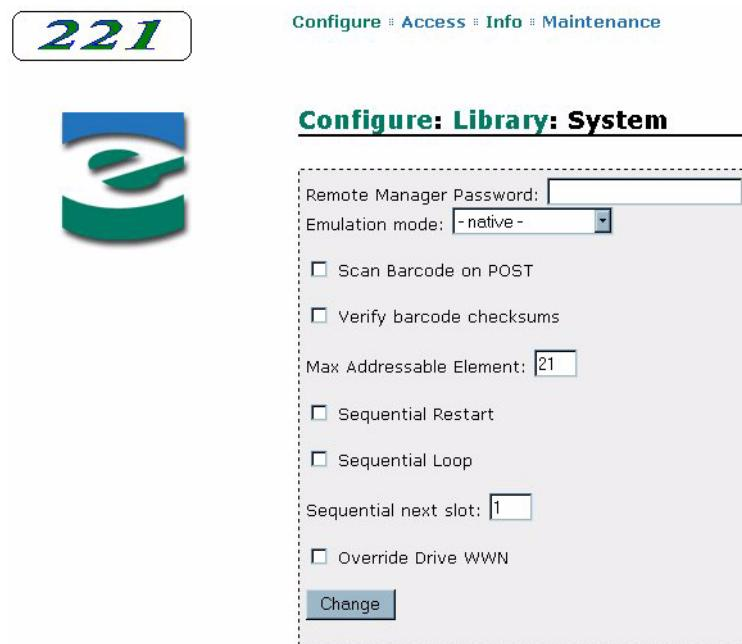

Figure 6-15 Remote management utility – Library System Configuration page
3. Click on Configure library system. A page similar to Figure 6-15 appears.